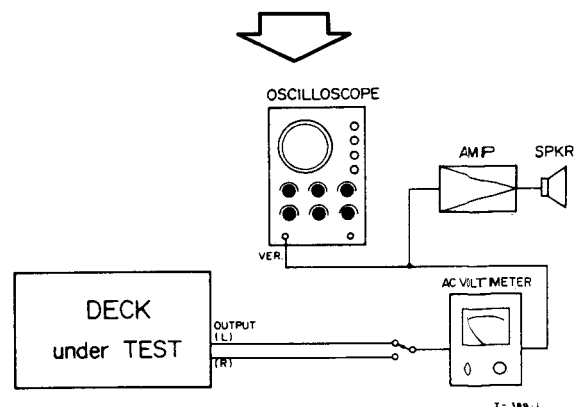

Fig. 6-5 Connection
3. Change the AC Voltmeter connection to the OUTPUT jacks as shown in Fig. 6-5.
Connection: See Fig. 6-5 on page 15.